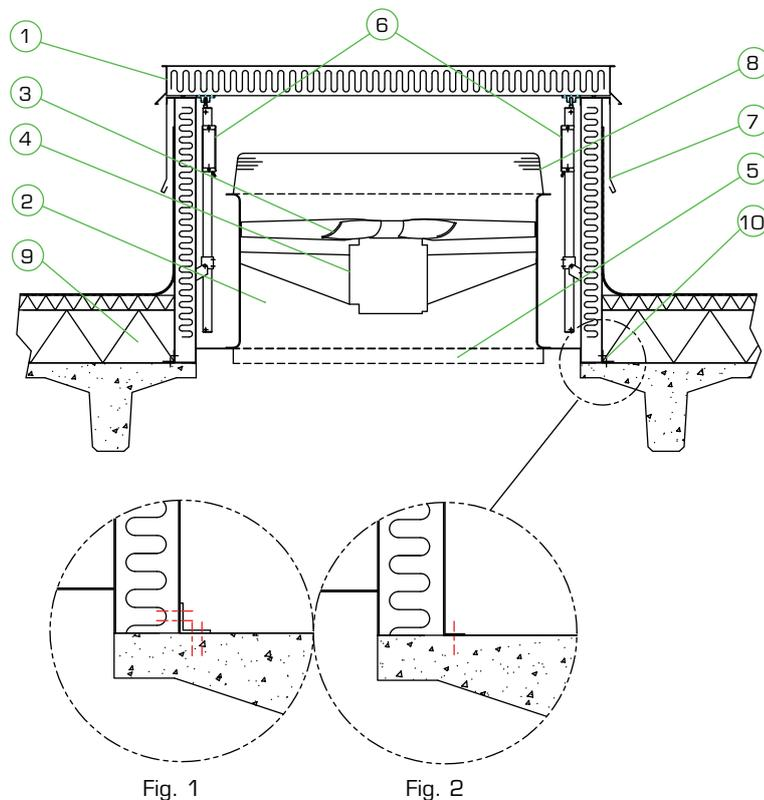

Fig. 1
10. Attachment to the roof structure with angle brackets (Fig. 1) or directly by the unit's flanged base (Fig. 2)